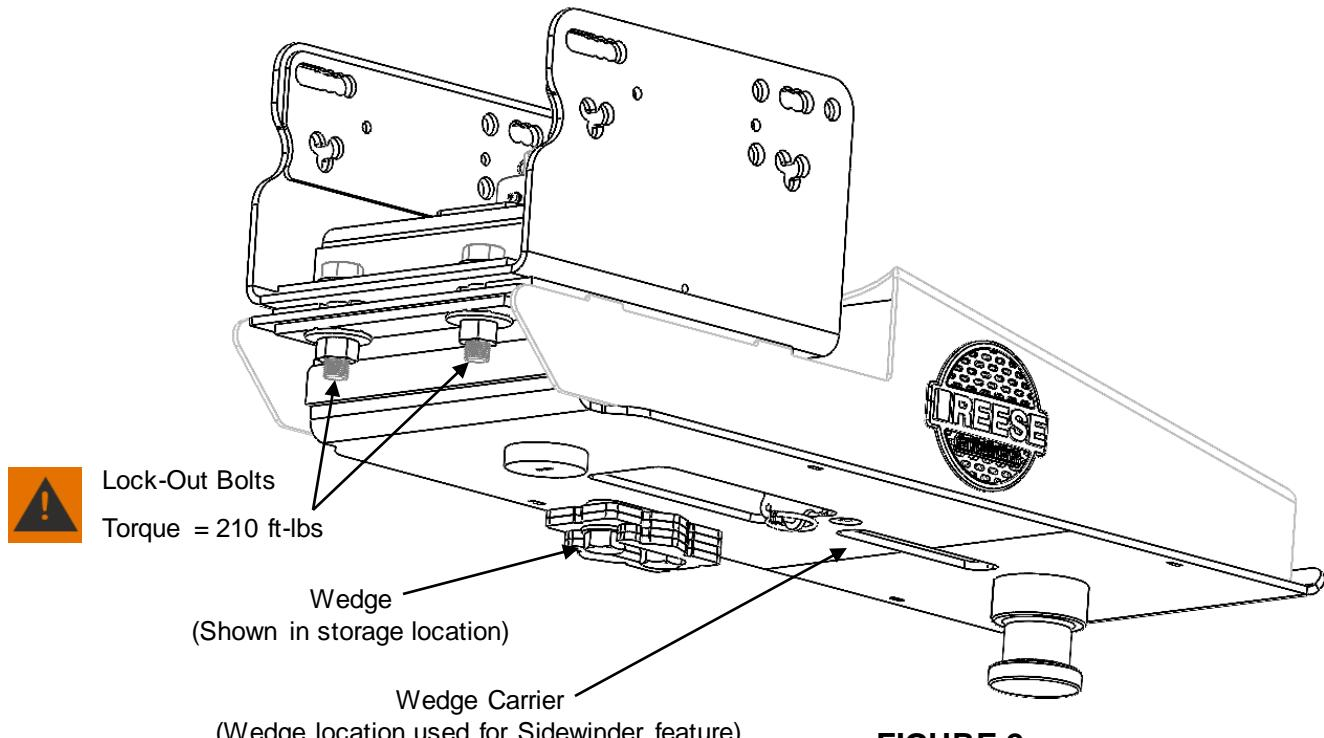

FIGURE 2
The Sidewinder comes from the factory as a conventional pinbox. Lock-out bolts, (2) $\frac{3}{4}$ " Grade 8 bolts, are installed and the wedge in the storage position (See Figure 2). These may or may not be removed by your installer. If used with the wedge & lock-out bolts installed at the same time, or without one or the other installed, damage to your trailer and/or truck may occur.